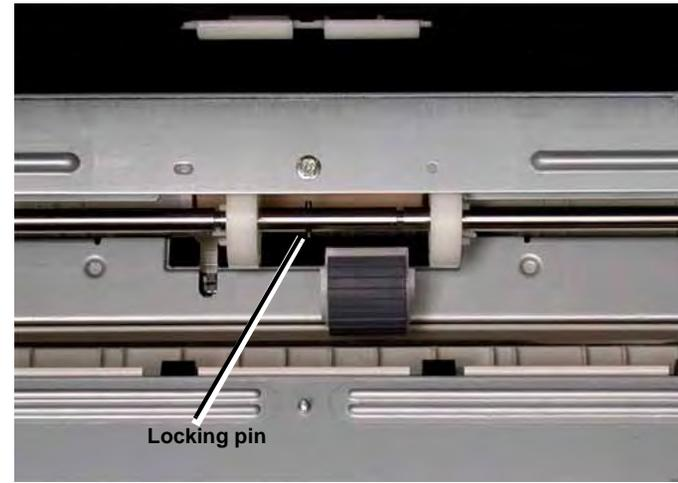

Figure 3 Removal
4. Slide the Feed Roll to the front, to clear the locating pin, and remove it (Figure 3).